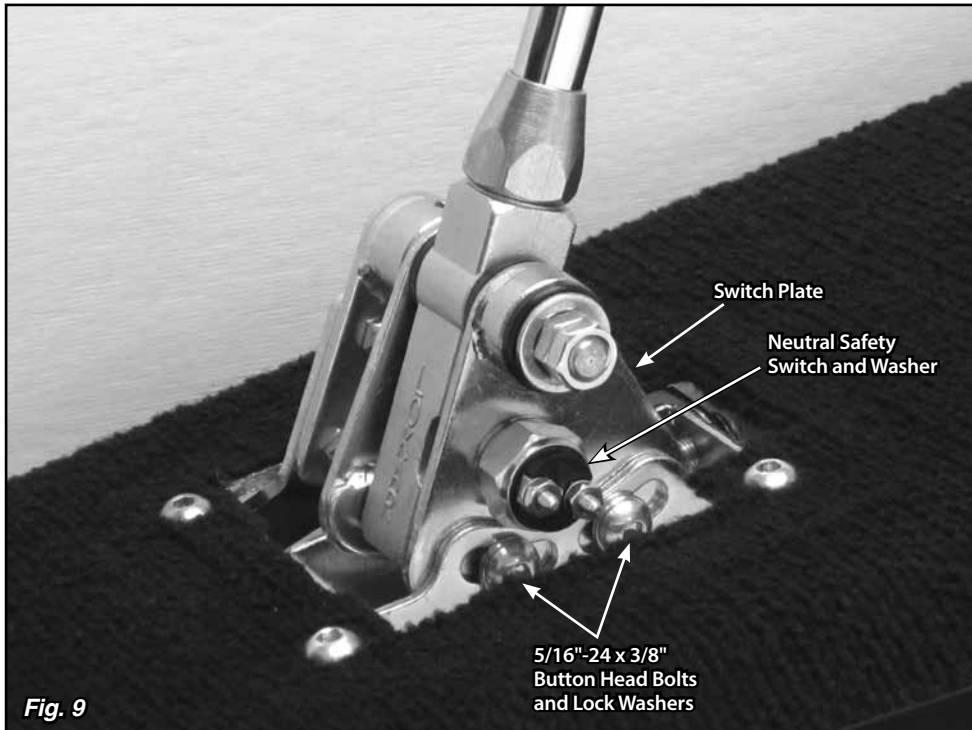

Fig. 9
**Step 14:** Remove the neutral safety switch and washer (**Fig. 9**) from the passenger side of the Shifter using a 7/8" wrench or socket.
**Step 15:** Loosen, but do not remove, the two 5/16"-24 x 3/8" button head bolts that attach the passenger side of the floor mount mounting bracket to the switch plate (the bolts are in curved, slotted holes). **Fig. 9**